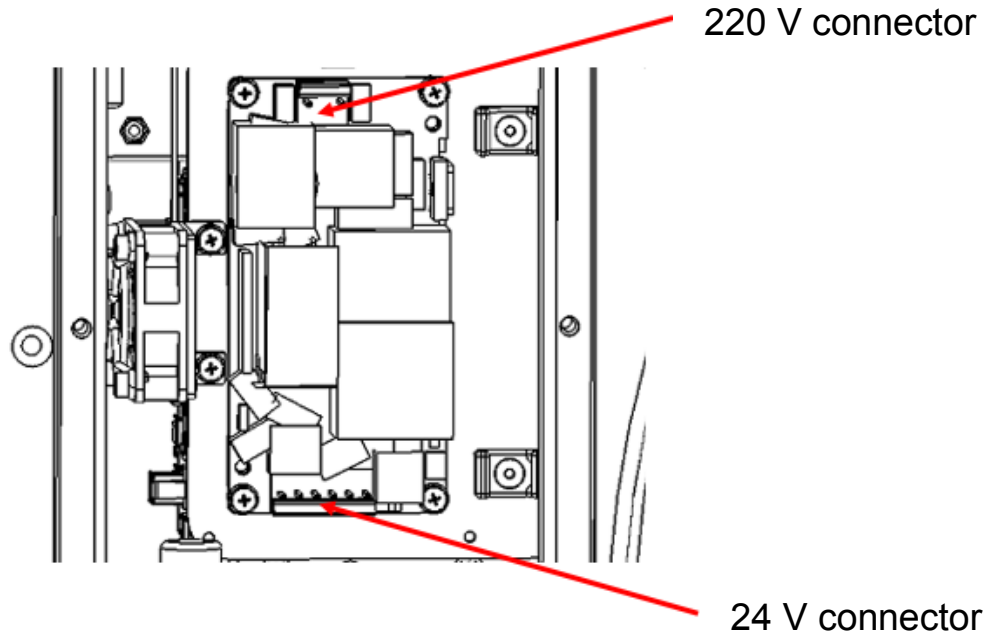

Figure 5-7 Removal of power module
Step 3 Unplug the 24 V connector and 220 V connector from the power module, as shown in Figure 5-7.